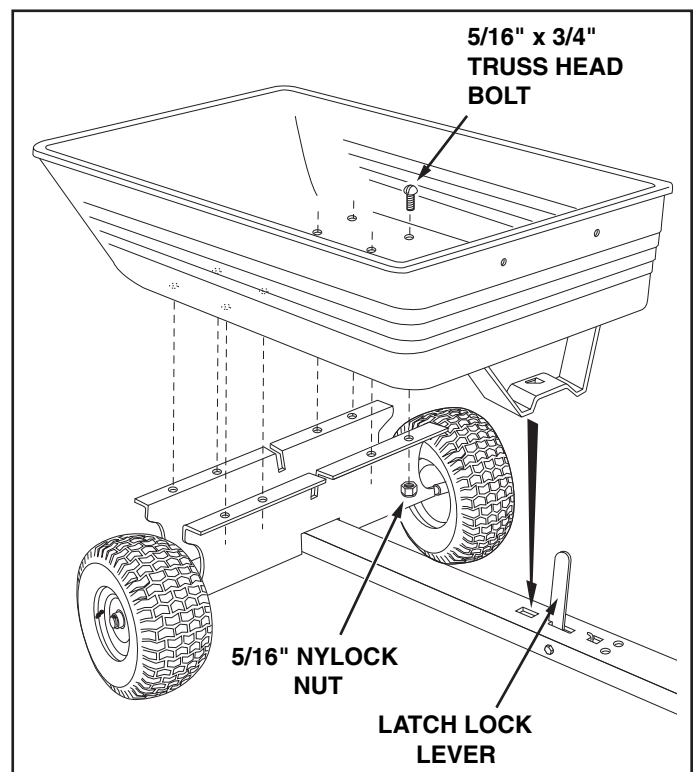

FIGURE 7
10. Place the poly tray down onto the wheel support, positioning it so that the latch stand bracket snaps under the latch lock lever. Fasten the tray to the wheel support using eight 5/16" x 3/4" truss head bolts and 5/16" nylock nuts as shown in figure 7. **Tighten**.